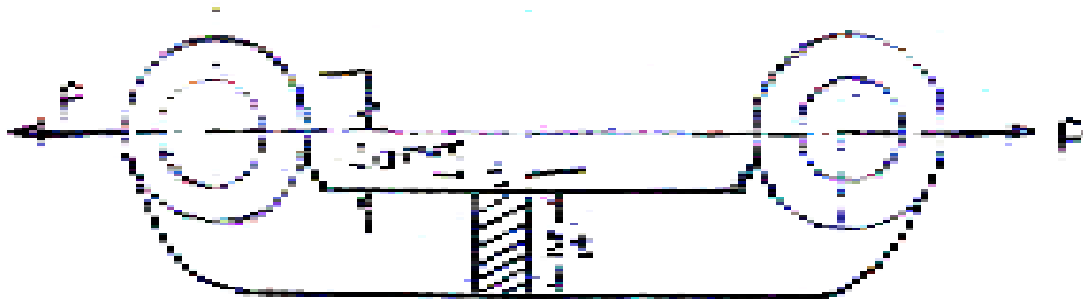

Fig. 06
10. a) An offset link subjected to a force of 25 kN is shown in Fig. 06. It is made of grey cast iron FG 300 and factor of safety is 3. Determine the dimensions of the cross-section of the link.